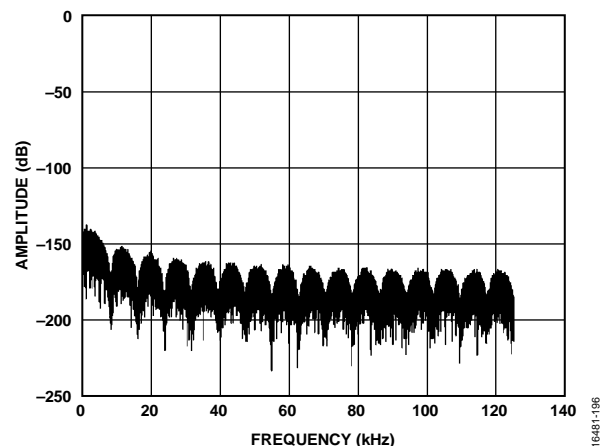

Figure 99. Example Filter Profile Upload
The following sequence programs a sinc1 filter. The coefficients in Address 0 to Address 23 = 0. The coefficients from Address 24 to Address 55 = 131,072 ( $2^{22}/32$ ). When MCLK = 16.384 MHz and ODR = 256 kHz, the filter notch appears at 8 kHz and multiples of 8 kHz. This filter provides low noise and is recognizable by the distinctive filter profile shown in Figure 99.
- Gather data. The resulting filter profile is shown in Figure 99.